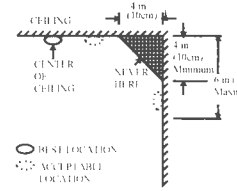

Figure 4: RECOMMENDED BEST AND ACCEPTABLE LOCATIONS TO MOUNT SMOKE DETECTORS
- Install smoke detectors as close to the center of the ceiling as possible. If this is not practical, put the detector on the ceiling, no closer than 4 inches (10 cm) from any wall or corner, as shown in Figure 4.
permitted by your local and state codes, put wall-mounted detectors between 4 and 6 inches (10 ~ 15 cm) from the ceiling, also see Figure 4.
- Dead air spaces are often at the top of a peaked roof, or in the corners between ceilings and walls. Dead air may prevent smoke from reaching a detector. See Figures 4 and 5 for recommended mounting locations.